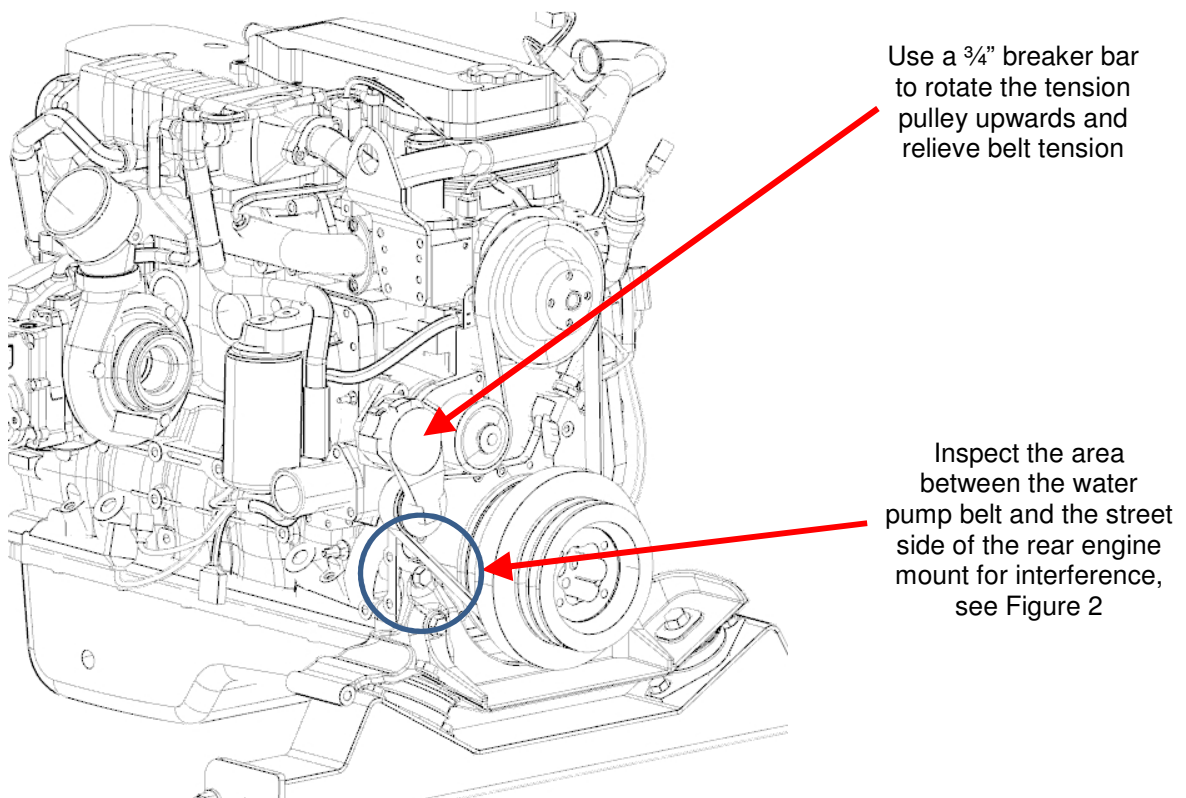

Figure 1: Water Pump Belt Interference Location
5. Inspect the area between the water pump belt and the street side of the rear engine mount for interference as shown Figure 1.